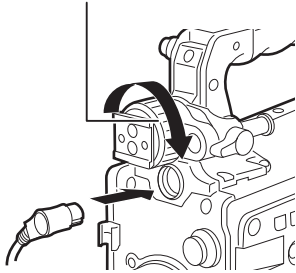

Fig. 1
- 2 Connect the connection plug to the <VF> terminal of the camera. (Fig. 1)
- 3 Loosen the viewfinder left-right positioning ring. (Fig. 1)